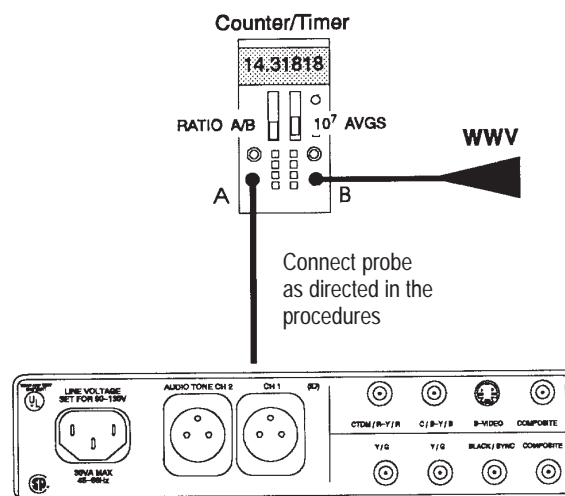

Figure 5–1: Setup to check crystal frequency
**Oscillator Frequency** Figure 5–1 shows the setup for this procedure.
- a. Connect the equipment as shown in Figure 5–1, attaching the probe to W151.
- a. Connect the equipment as shown in Figure 5–2.
- a. Connect the test equipment as shown in Figure 5–2.
- a. Connect the test equipment as shown in Figure 5–2, keeping the waveform monitor in WFM + CAL.